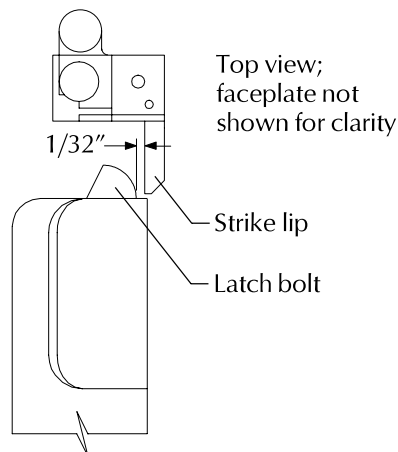

Figure 2
5. Install strike with two 1/4-20 screws. Make sure clearance between latch bolt and strike lip is 1/32" (Figure 2).